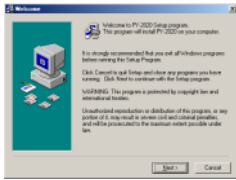

Fig. 5.1
- 5.1 Left-double-click “**SETUP.exe**” obtained in Step 4. A window shown in Fig. 5.1 will be displayed. Hit **[Next]** button.